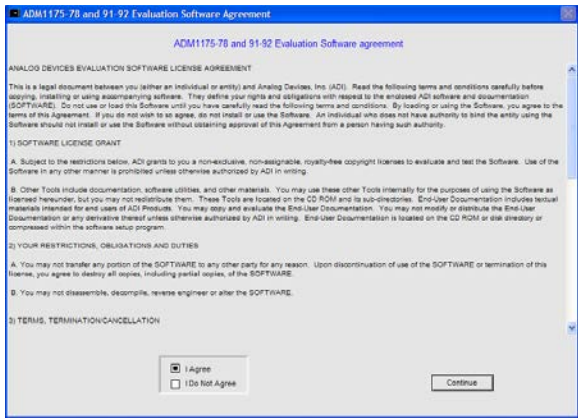

Figure 15. Software Agreement
2. Once launched, the **Evaluation Software Agreement** window appears (see Figure 15). Choose **I Agree** to concur with the conditions, then select **Continue**.